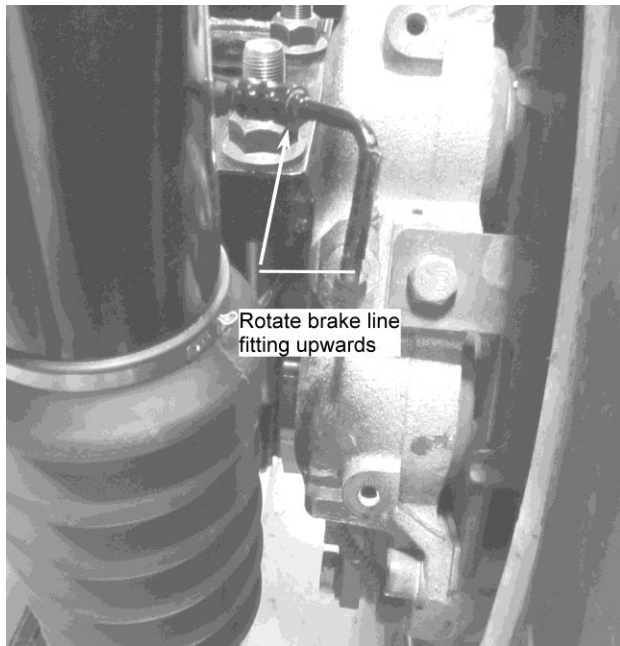

Figure 11: Rotate Brake Line Fitting Upwards
3. Rotate brake line fitting as shown below in Figure 11.